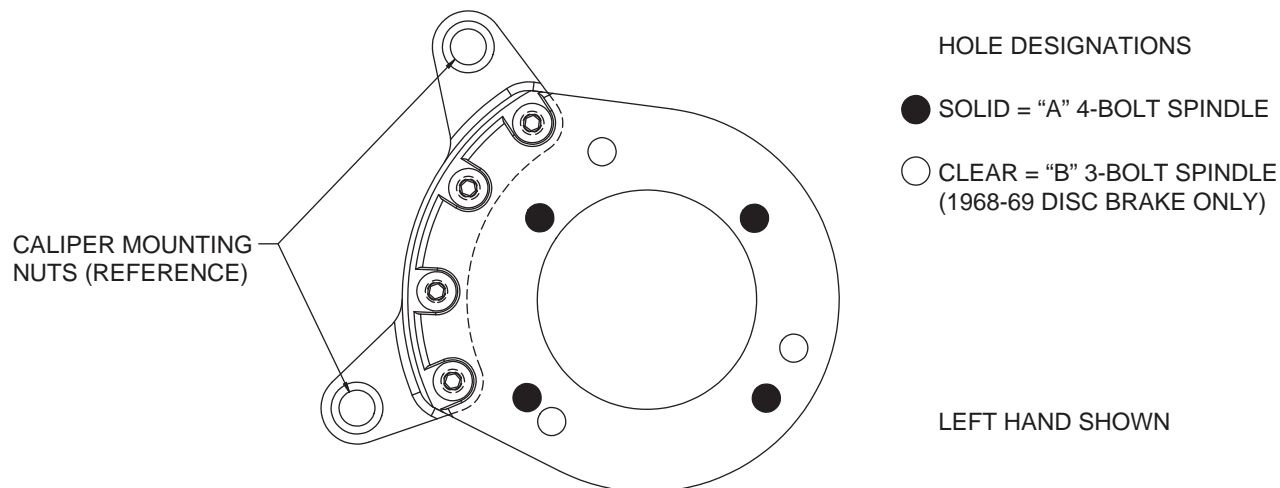
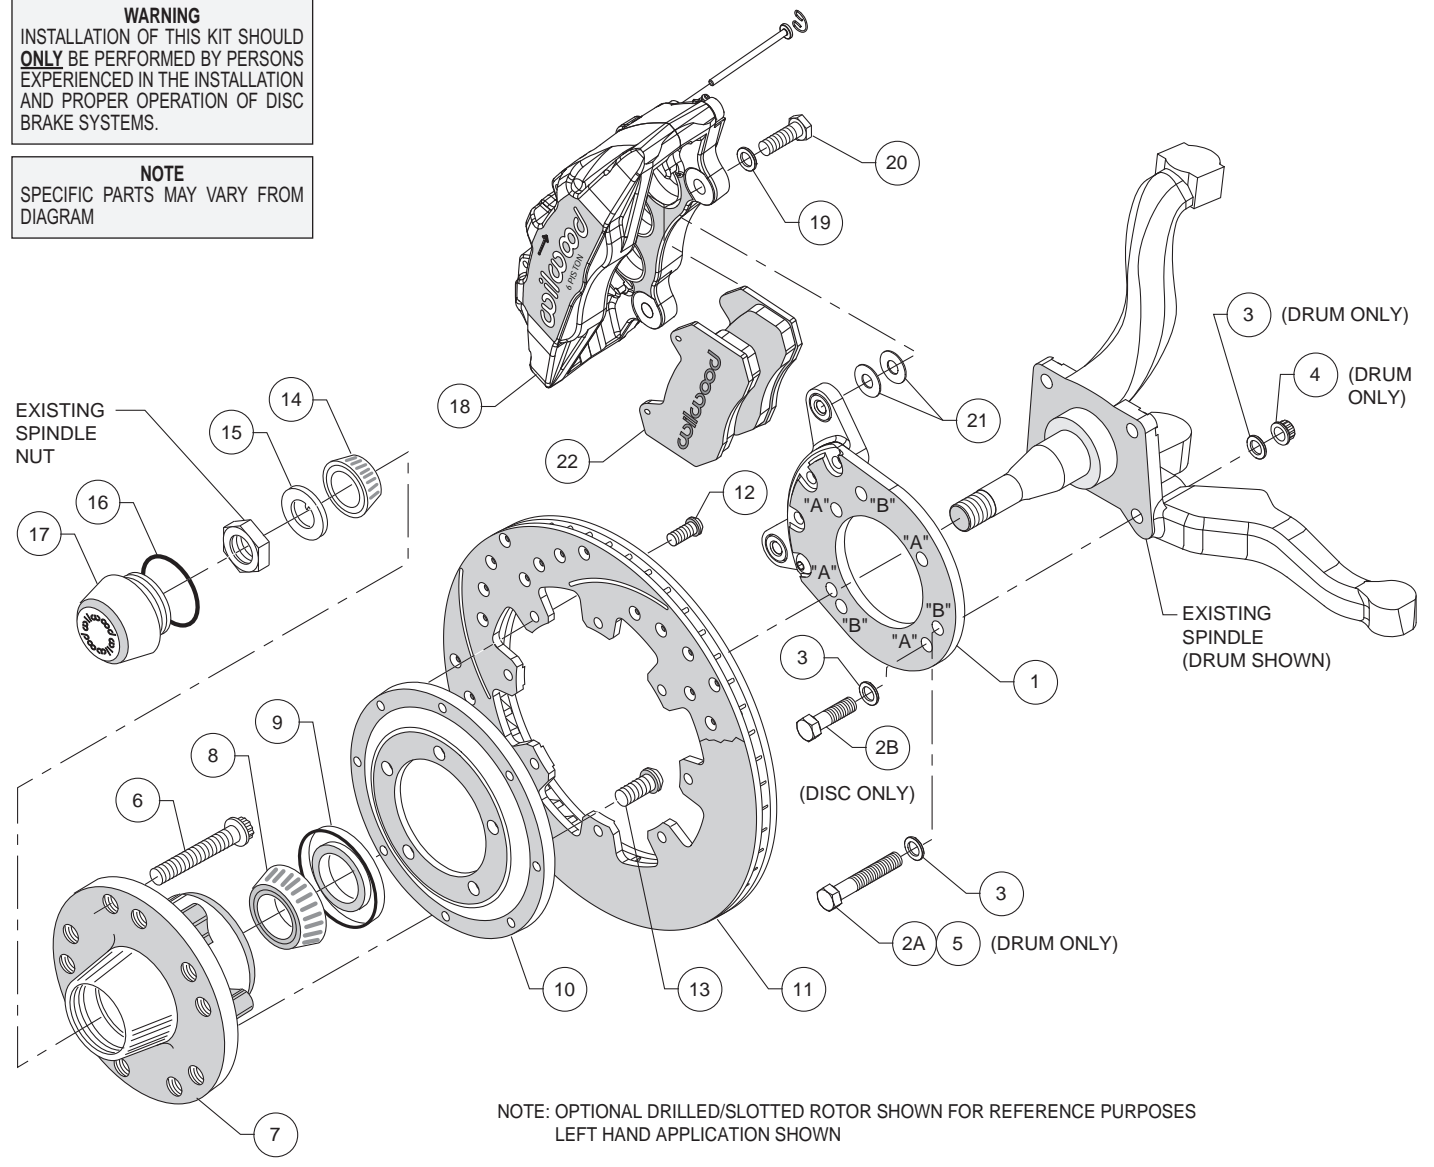
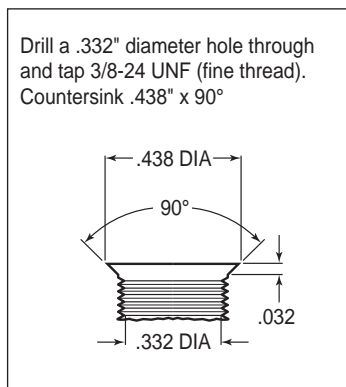
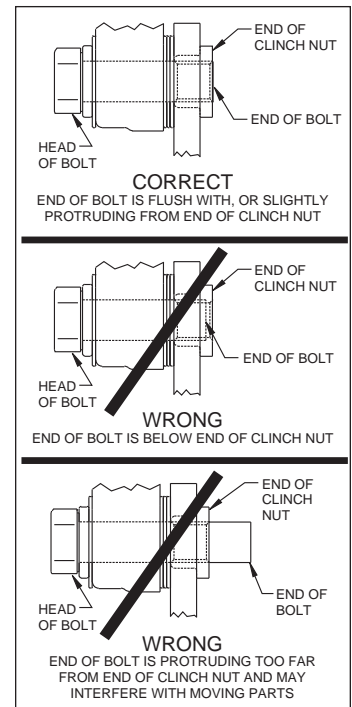

Figure 1. Wilwood Caliper Mounting Bracket
Figure 2. Typical Installation Configuration
Figure 3. Drill and Tap Detail
Figure 5. Clinch Nut Engagement Diagram
This kit has been designed for use with both the disc brake or the drum brake configuration of vehicle. The only difference is in how the Wilwood caliper mounting bracket is installed. The same bracket is used for both configurations; the disc brake version utilizes three mounting holes while the drum brake application uses four mounting holes (see Figure 1). For your convenience we have supplied bolt kits for both applications (see parts list and Figure 2 as necessary). Use the bolt kit that is applicable to your vehicle and disregard the other one.
NOTE: This modification should be performed by a qualified machinist and completed before assembly of the Wilwood disc brake kit begins. Using the caliper mounting bracket as a template (refer to Figure 1 as necessary), locate and verify the three original holes on the spindle that need to be modified. Drill a .332" diameter hole through all three holes, then tap 3/8-24 UNF (fine thread). Countersink the holes to .438" diameter x 90°, as shown in Figure 3.
Assembly Instructions (numbers in parenthesis refer to the parts list, and Figure 2 on the preceding pages): **CAUTION:** All mounting bolts must fully engage clinch nuts. Be sure to check that all bolts are either flush or protruding through flanged side of clinch nut after shimming, Figure 5.
•**NOTE:** This kit uses the same mounting bracket (1) for both the drum and disc brake spindles. The drum version, Photo 1, uses four mounting bolts (designated "A"), while the disc version, Photo 2, uses three (designated "B"). Refer to Figures 1 and 2 for the basic installation position of the bracket and the "A" and "B" reference designations (not physically marked on the brackets).
For Drum Spindle: Align bracket, using the four "A" holes, to the face of the spindle and attach using bolts (2A and 5), washers (3), and lock nuts (4), as shown in Figure 2. Ensure that the flanged heads of the clinch nuts in the bracket are facing outboard, Photo 1. Torque nuts to 30 ft-lb.
For Disc Spindle: Align bracket, using the three "B" holes, to the face of the spindle and attach using bolts (2B) and washers (3), as shown in Figure 2. Finger tighten. Ensure that the flanged heads of the clinch nuts in the bracket are facing outboard, photo 2. Remove bolts one at a time, apply red *Loctite*® 271 to threads, and torque to 40 ft-lb.
•Install wheel studs (6) into the hub (7), Photo 3. Torque to 77 ft-lb. **NOTE:** There are two five lug patterns in the hub (5 x 4.50 and 5 x 4.75). Ensure the correct hub stud pattern is being used to fit the wheel application.
•Pack the large inner bearing cone (8) with high temperature disc brake bearing grease (available from your local auto parts store) and install into the backside of the hub (7), Photo 4.
•Install the grease seal (9) by pressing into the backside of the hub (7), flush with the end of the hub, Photo 4.
•Orient the rotor (11) and the rotor adapter (10) as shown in Figure 2 and Photo 5. Attach the rotor to the adapter using bolts (12). Using an alternating sequence, apply red *Loctite*® 271 to the threads, and torque to 25 ft-lb.
•Mount the adapter/rotor assembly (10/11) to the hub (7) using bolts (13), as shown in Figure 2 and Photo 6. Using an alternating sequence, apply red *Loctite*® 271 to the threads, and torque to 45 ft-lb.
•Pack the small outer bearing cone (14) with high temperature disc brake bearing grease and install into hub (7). Slide the hub/rotor assembly onto the spindle. Secure using spindle washer (15) and OEM spindle nut, Photo 7. Adjust bearings per OEM specifications. Install saved OEM nut lock (if any) and a new cotter pin (not included).
•Screw dust cap (17) into hub (7), Photo 8. Friction created by the o-ring (16) on the dust cap keeps it from unscrewing. **NOTE:** The O.D. of the existing OEM spindle washer may be larger than the I.D. of the dust cap not allowing it to seat against the hub face. Therefore, use the spindle washer (15) supplied with the kit instead of the OEM washer.
•**NOTE:** Please reference the caution statement at the beginning of the assembly instructions. This kit contains distinct right and left hand calipers that must be mounted in a specific direction, as described below. Mount the caliper (18) onto the caliper mounting bracket (1) using bolts (20) and washers (19), as shown in Figure 2. Initially place two .035" thick shims (21) on each bolt between the caliper and the bracket, Photo 9. Ensure that the caliper is mounted so the largest pistons are at the rotor exit end of the caliper, in relation to the direction of rotor rotation. Temporarily tighten the mounting bolts and view the rotor (11) through the top opening of the caliper. The rotor should be centered in the caliper, Photo 10. If not, adjust by adding or subtracting shims between the bracket and the caliper. Always use the same amount of shims on each of the two mounting bolts. **NOTE:** The end of each bolt must be flush with or slightly protruding from the head of the clinch nut, as shown in Figure 5. If necessary place spare shims between washer (19) and caliper mounting ear to achieve the proper clinch nut engagement. Once the caliper alignment and clinch nut engagement are correct, remove the caliper bolts and caliper.